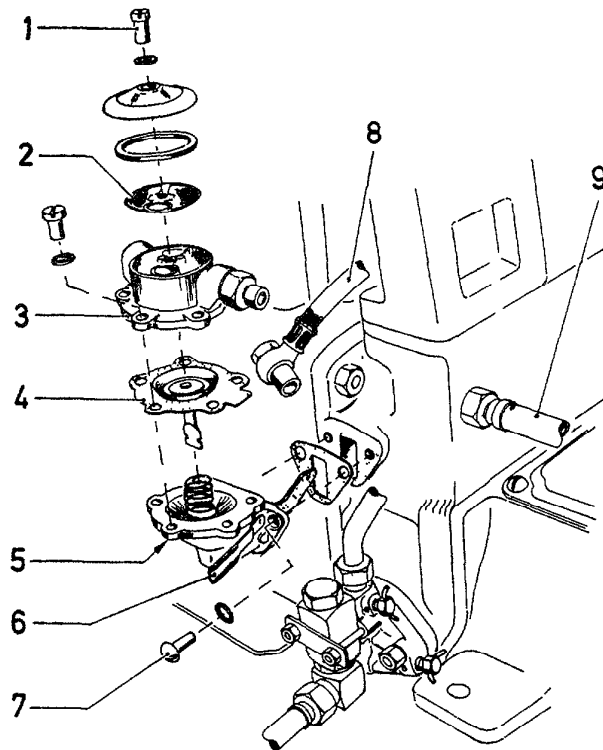

Fig. 32
2. Bleed filter by loosening nut on fuel leak-off pipe (1) three turns.
Operate hand pumping lever (Fig 32, item 6) on fuel lift pump until oil escaping from filter is free of bubbles.
3. Bleed fuel hose (2) to injection pump by slackening banjo nipple plug (4) three turns and operating hand pumping lever until the escaping oil is free of bubbles.